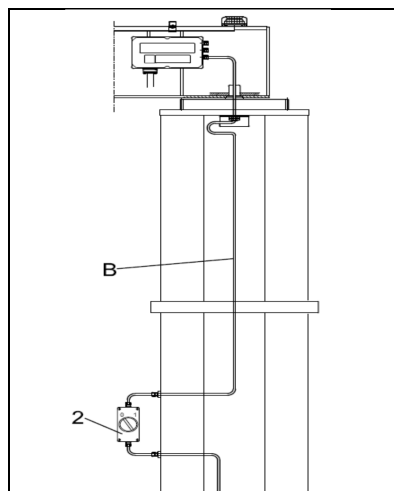

fig.42
1. Directly connect line cable **B** to the terminal block of the rotation control electric panel passing it through the rotation pin hole attached to the arm. (fig.42)